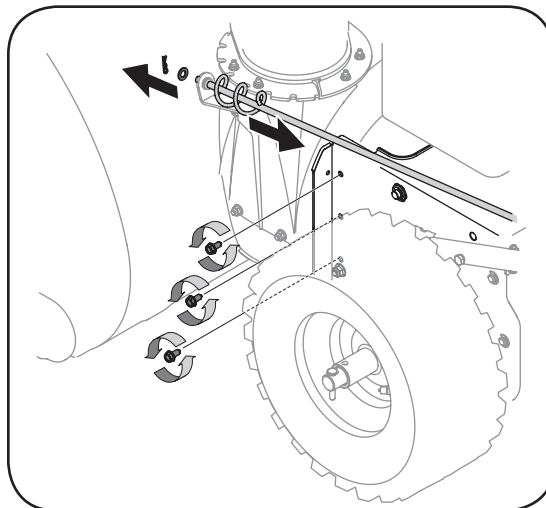

Figure 6-4
1. Disconnect the chute crank assembly at the discharge chute end by removing the hairpin clip and the flat washer. Refer to Figure 6-4.
8. Remove the upper bolts which attach the auger housing assembly to the frame assembly using a 9/16" wrench. Refer to Figure 6-4 on previous page.